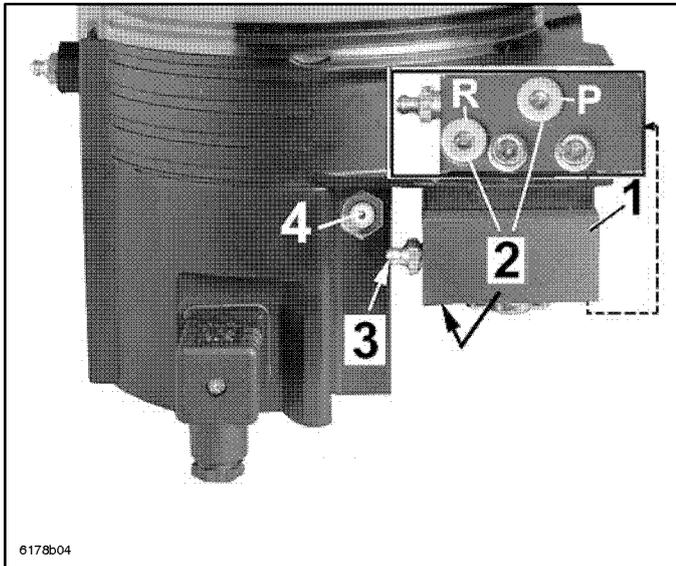

Fig. 6-3 QLS 301 without mounted SSV divider block with connection for external SSV divider valve KN QLS
- Pump without the SSV metering device attached respectively with external metering device SSV KNQLS (see fig. 6-3)
- The proximity switch is provided with a connecting cable of 2 m lengths and a connecting plug which must be connected to the socket 4 (fig. 6-3) of the QLS 301.